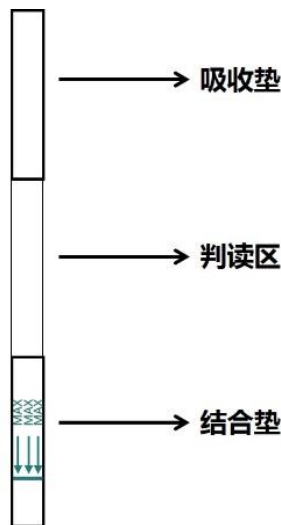

Figure 1. Schematic Diagram of Disposable Nucleic Acid Detection Test Strip Structure
1. Take out the corresponding number of test strips according to the number of samples to be tested, and mark them on the absorbent pad (Figure 1). Each test strip can only be used for single detection of a single sample. When the amplification product volume is 50-100 μL, the nucleic acid product can be directly detected in a 200 μL PCR
2. After PCR, RPA, or RAA reaction is completed, open the PCR reaction tube and insert the conjugate pad end (arrow end) of the test strip into the PCR reaction tube (Figure 1). The liquid level must not exceed the top of the conjugate pad. Wait for the reading zone to be fully wetted (approximately 1-2 minutes; when the ambient temperature is low, such as in winter, the wicking speed will be reduced and the wetting time of the reading zone will be extended). After the control line (C line) develops color, the test strip can be removed. Read the detection result directly according to the color development of the test strip.